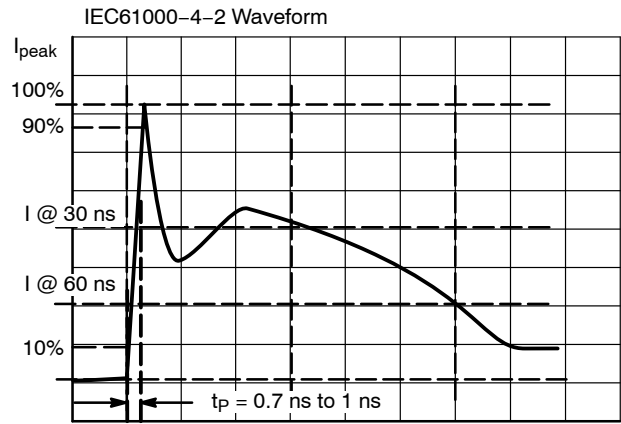

Figure 3. IEC61000-4-2 Spec
7. For test procedure see Figures 3 and 4 and Application Note AND8307/D.